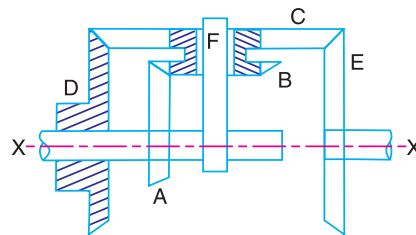

Fig. 13.49
20. An epicyclic gear consists of bevel wheels as shown in Fig. 13.49. The driving pinion  $A$  has 20 teeth and meshes with the wheel  $B$  which has 25 teeth. The wheels  $B$  and  $C$  are fixed together and turn freely on the shaft  $F$ . The shaft  $F$  can rotate freely about the main axis  $XX$ . The wheel  $C$  has 50 teeth and meshes with wheels  $D$  and  $E$ , each of which has 60 teeth. Find the speed and direction of  $E$  when  $A$  rotates at 200 r.p.m., if